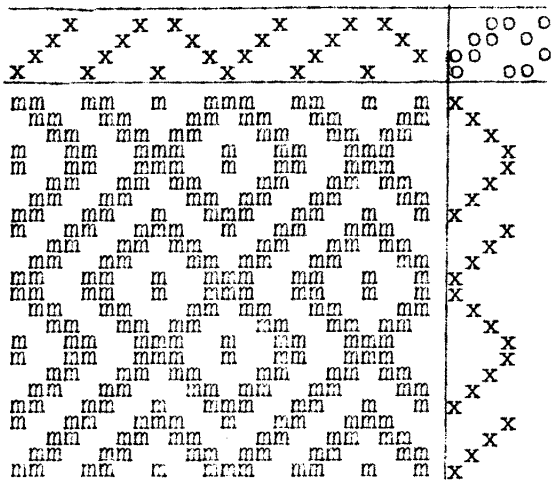
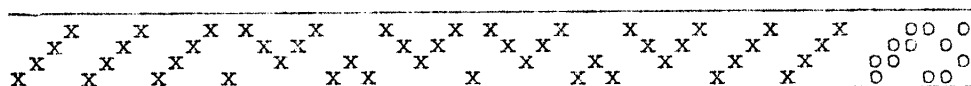

Fig.1
Fig.3
2. Regardless of the type of treadling, that is whether the pattern is woven-as-drawn-in, in rose-fashion, or fancy (independent of threading), we must use an odd number of shots on the same twill treadle, when the treadling proceeds in one direction, and an even number of shots at the turning point. In case of woven-as-drawn-in patterns, or rose patterns it simply means: one shot on diagonals, and 2 shots at turning points (fig.1 and 2). But in fancy treadlings we may have many more shots of weft on the same treadle.
With the richness of detail of the diamond twill patterns, there is no particular reason why the patterns should be symmetrical, or for that matter why should there be any definite repeat. If the drafts in fig.1 and 2 are rather short, it is only because otherwise they would take too much space on paper. But any weaver can make his own drafts of any length, either with the pattern covering the whole fabric, or alternating with plain twill as in fig.3.